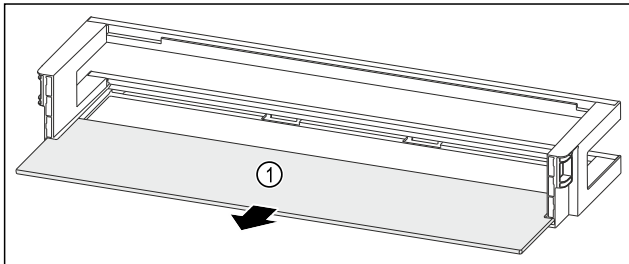

Fig. 169 Door rack with shelf
- ▶ Remove the shelf Fig. 169 (1).